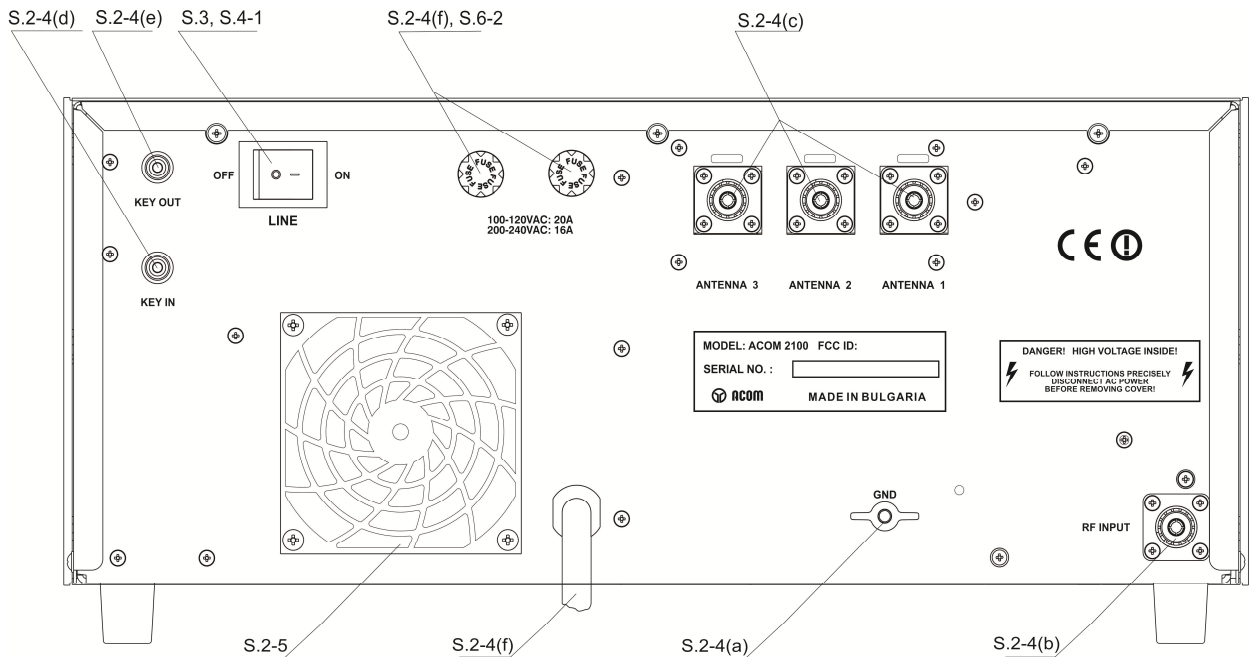
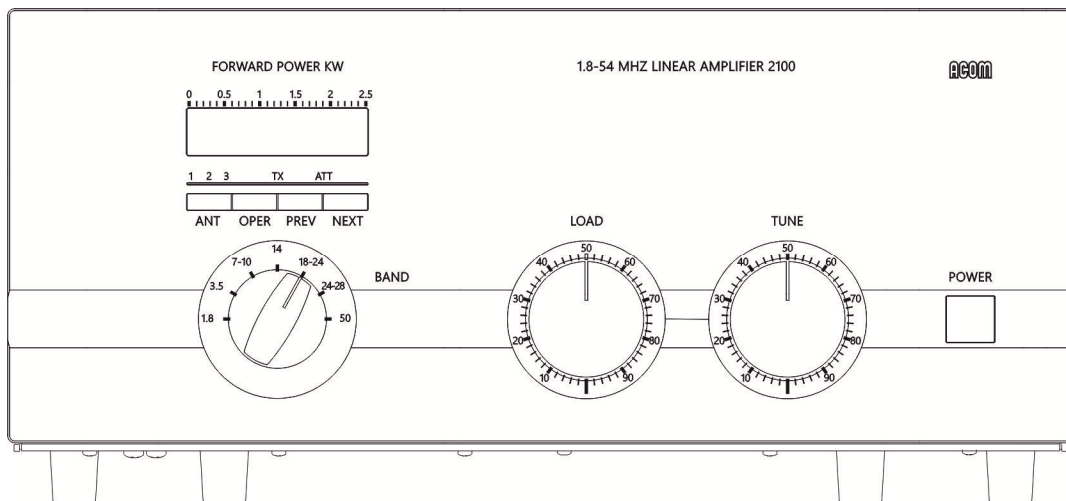

Fig. 2-1 Connections
Fig.3-1 ACOM2100 Display and Control
- First, connect the ground stud of the amplifier (on the rear panel, marked GND) to the station's grounding system (Fig.2-1).
This fan (Fig. 2-1) is not necessary in SSB and CW modes, or in continuous carrier modes (RTTY, SSTV etc.) with a maximum carrier-down time of 5 minutes and a subsequent pause of 3 minutes. For higher duty cycles such as continuous broadcast or increased ambient temperatures the fan is recommended. The auxiliary fan (92x92x25mm or 92x92x38mm) must be a brushless type, 2...5W/24VDC. It may be installed by your dealer or by the manufacturer on request.
After following all instructions in S.2, you may turn ON the main power switch marked "LINE" on the rear panel (Fig.2-1). The LED indicator above the red ON/OFF button located on the front panel must light red and an inscription "ACOM2100" will appear on the display (Fig.3-1):